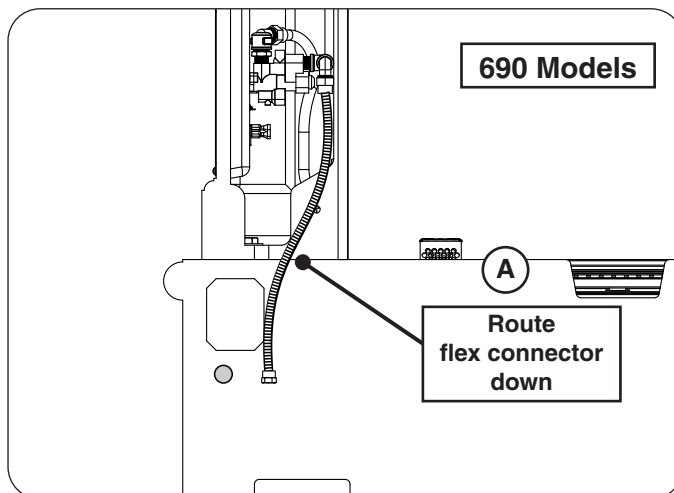

Fig. 28-1 Route flex connector down into hearth
1. Locate the flex connector that is already installed on the rear of the valve assembly. Route it down through the hole in the hearth. See Fig. 28-1, A.